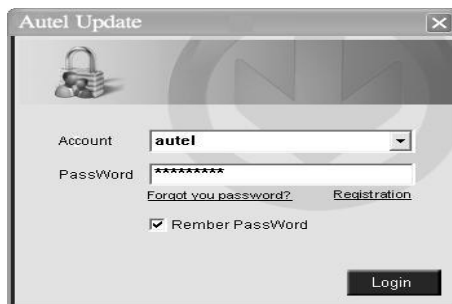

Figure 5.4
- 1) Run **Update Client** in the **PC Suit** programme. Wait for the Log In window to pop up. (Figure 5.4)